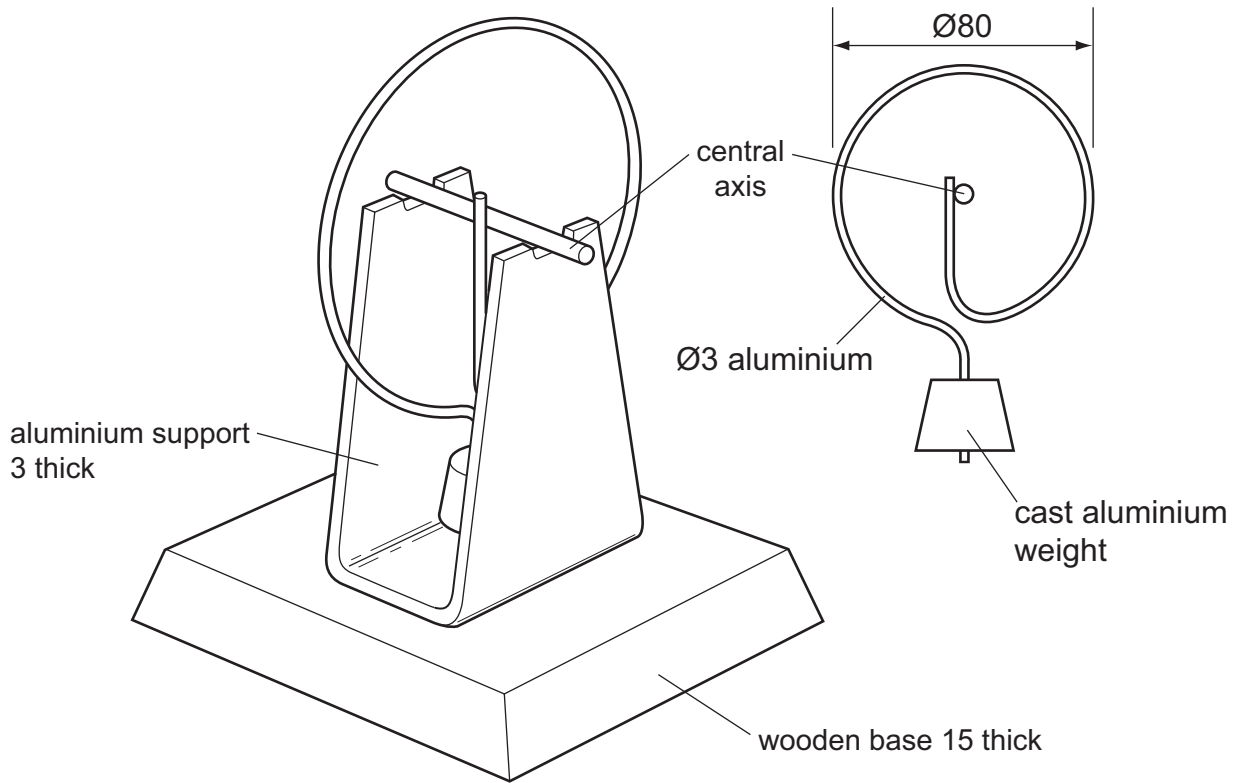

Fig. 9
- 12 Fig. 9 shows a desktop toy that can be made to move by rocking the suspended weight. The desktop toy is made from aluminium except the base which is made from wood.